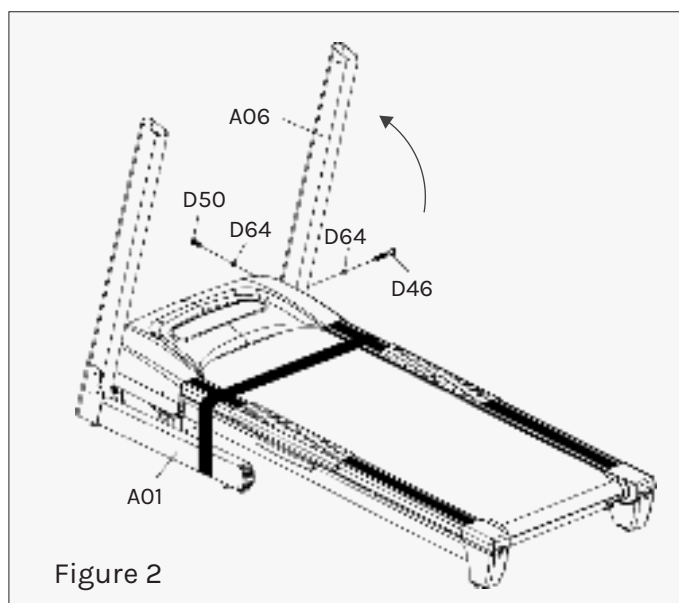

Figure 2
3. Repeat the step above to assemble the Right Upright Tube (A06) to the Base Frame (A01). See Figure 2.